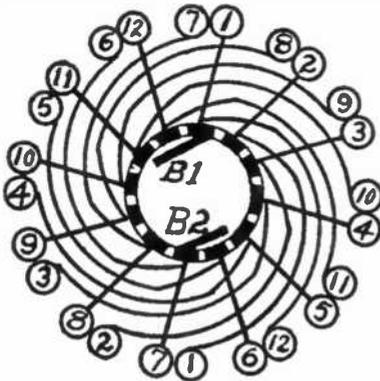

Fig. 15.—Scheme for Connecting Armature Windings to Commutator.
made by connecting the loops between the coils to the adjacent commutator segments. The wire in the loop should have the insulation scraped off and then be driven in the slots in the end of the segment and soldered. If the coils have been properly wound, and connected, the paths through the armature should be as follows: Referring to Fig. 15, (1) B 1-12-12-11-11-10-10-9-9-8-8-7-7-B 2, and (2) B 1-1-2-2-3-3-4-4-5-5-6-6-B 2. This, together, with the winding diagram, will be useful in tracing out the winding and connections should there be any difficulty with the armature.